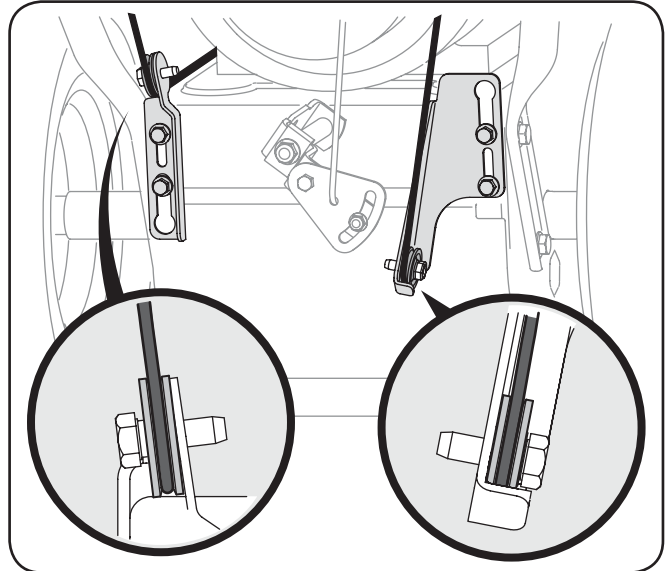

Figure 3-2
**NOTE:** Make certain the cables are seated properly in the roller guides. See Fig. 3-2.